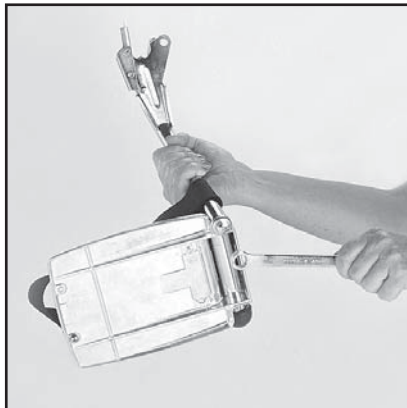

Figure 5B
3. If length adjustment is necessary, loosen the bolt at the base of one of the footrest stems by two complete turns, (1/2 inch wrench required). Tap the head of the bolt to loosen the inner tube from the outer tube (See Figure 5B below).
5. Repeat (3) and (4) for other footrest.